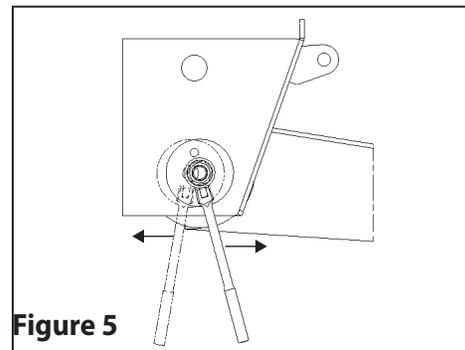

Figure 5
3.2 To move the axle, insert a $1/2''$ square shank breaker bar into the square hole on the adjuster plate and push or pull (Figure 5). The adjustment should be made in equal amounts on both sides of the hanger to ensure the bushing is seated squarely between the hanger sidewalls.